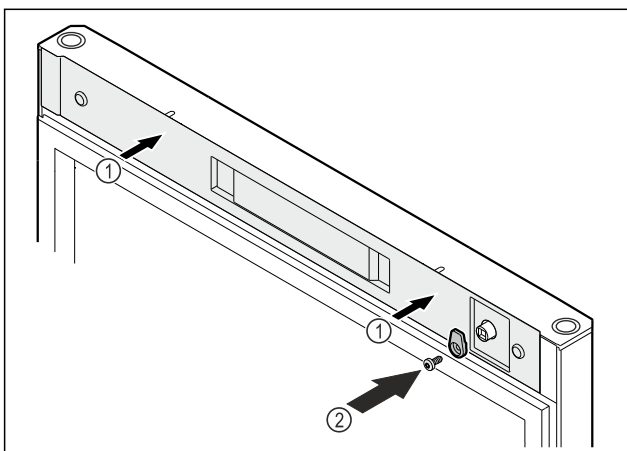

Fig. 54
- ▶ Set the cover back in place Fig. 54 (1).
- ▶ Screw on the door latch Fig. 54 (2).